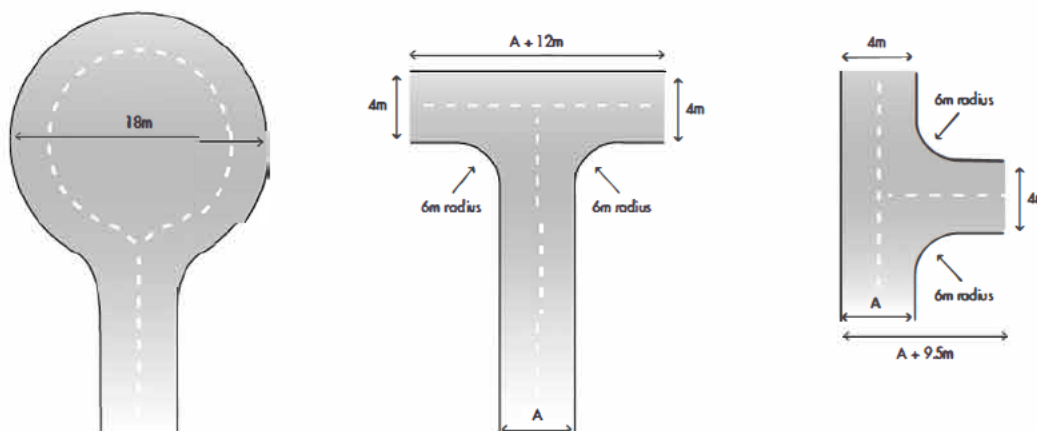

Figure 28: Design requirements for a turnaround area for a private driveway or battle-axe
- turn around area as shown in Figure 28 and within 30 metres of the habitable building.